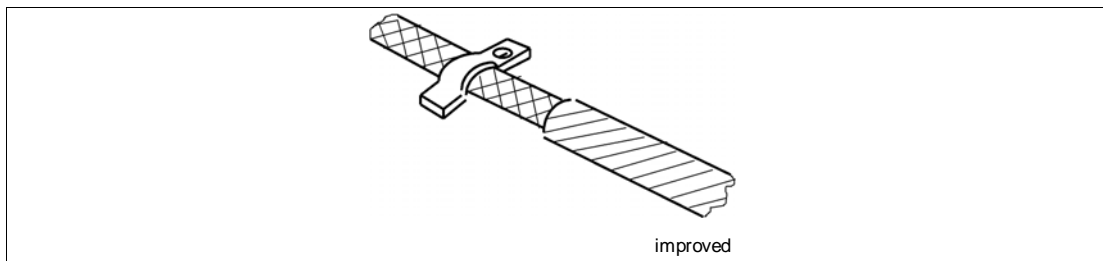

Figure 9 Improved Shielding
- Install a ferrite core around the cable as close to the SPiiPlus SAR as possible as illustrated in Figure 9.